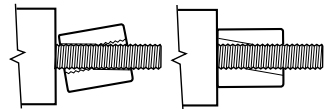

Figure 2: Cross-drilled nuts.
3. Slide the knurled speed-clamping nuts onto the threaded rods. Note that the speed-clamping nuts are cross drilled (see **Figure 2**) so that they will slide easily without engaging on the threaded rods until they come up against the corner clamp. Slide the nuts up against the corner clamps and tighten alternate nuts to ensure square clamping.